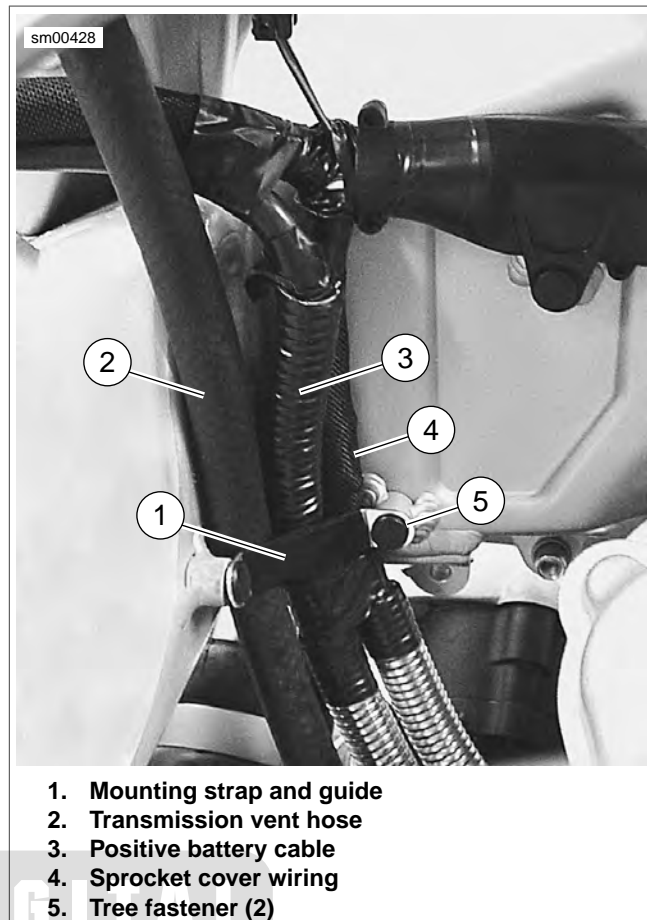

Figure 6-99. Wire Harness Strap and Guide
6. See Figure 6-99. Be careful to route the interactive exhaust cable behind the mounting strap and guide (2) along with main harness.